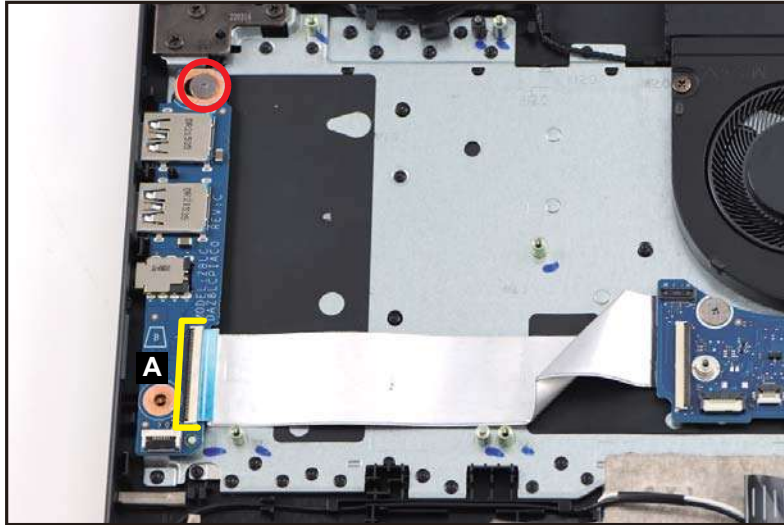

Figure 3-46. IO Board Removal
1. Disconnect the DB FFC from the IO board connector (A) (Figure 3-46).
2. Remove one (1) screw securing the IO board (Figure 3-46).